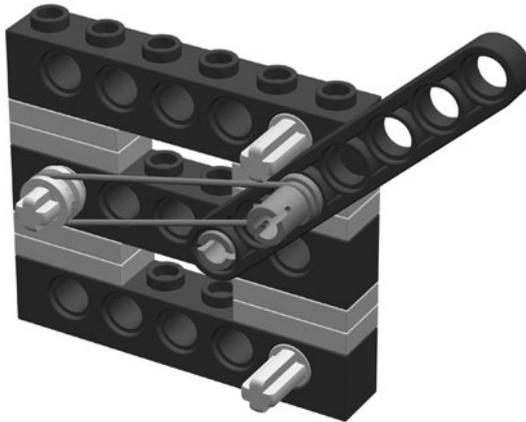

Fig. 6-9. Mechanical switch.
**Try This:** Our third, and final, example of hysteresis is a mechanical switch. It is similar to the falling pencil example earlier in the chapter, but has two states, “up” and “down,” instead of just one, “fallen.” See Fig. 6-9.
One of the easiest ways to sense the environment is with a *switch*. We already implied the use of an electrical switch in Chapter 6, with the car's bumper. We also saw a nonelectrical switch in Fig. 6-9.